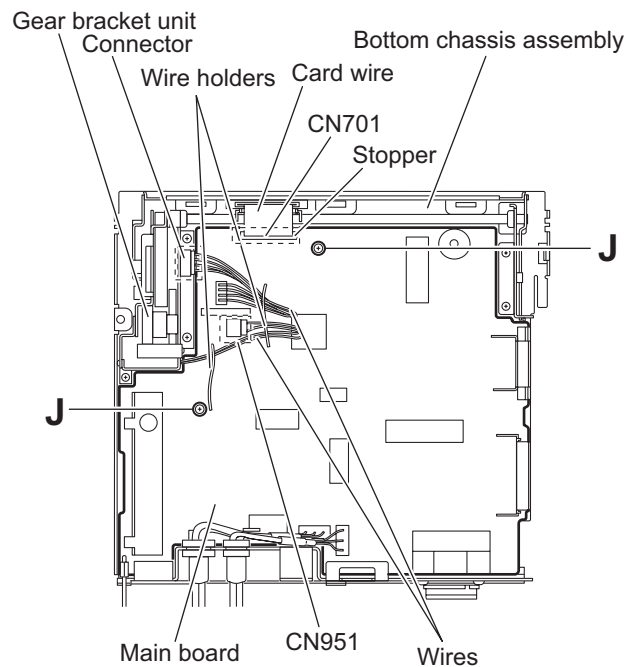

Fig.12
- (2) From the top side of the bottom chassis assembly, remove the two screws **J** attaching the main board to the bottom chassis assembly. (See Fig.12.)
- (3) Release the stopper of the connector CN701 on the main board in an upward direction, disconnect the card wire from the connector CN701. (See Fig.12.)
- (4) Disconnect the wire from the connector of the gear bracket unit. (See Fig.12.)
- (5) Disconnect the wire from the connector CN951 on the main board. (See Fig.12.)